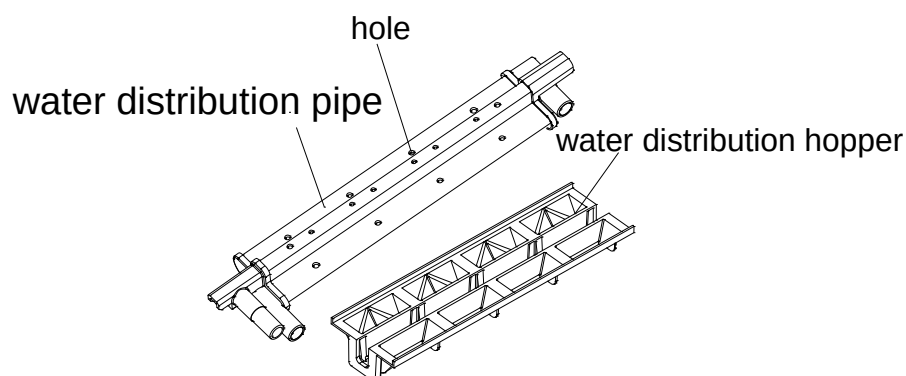

Figure 4
5. After taking out the "water distribution pipe", please clean the inside of the water distribution pipe, especially clean each small hole on the water distribution pipe to ensure that each small hole is unobstructed. At the same time, clean the water distribution hopper to ensure that there is no foreign matter in the water distribution hopper, as shown in Figure 4.